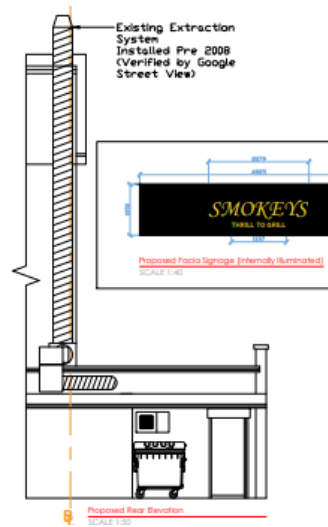

Figure 2: Proposed rear elevation showing ductwork
3. Plans include keeping the existing of a kitchen extract system comprising of a wall type canopy extracting through a site safe carbon block before the extract fan discharging at 1m above the roof ridge at the "Proposed Kitchen Extraction Exhaust" shown in figure 2.